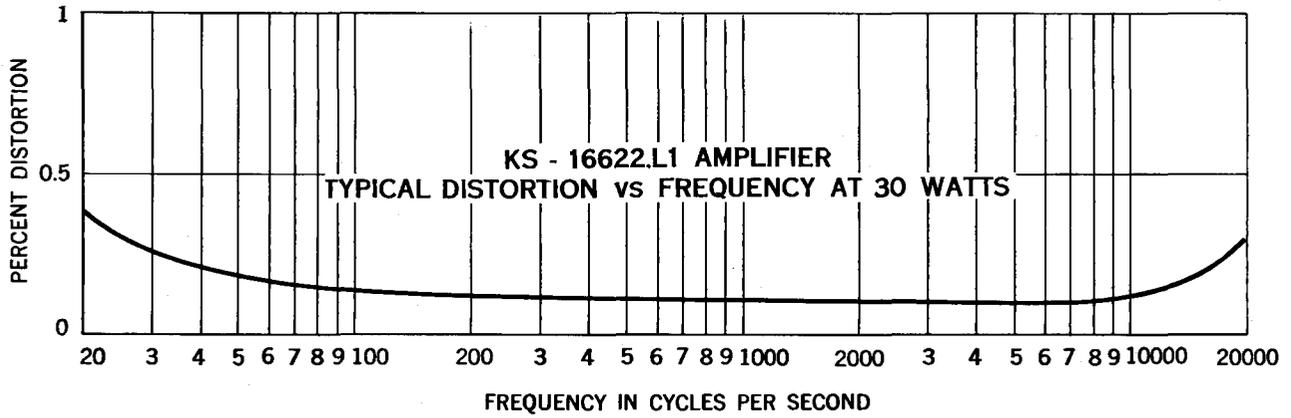

Fig. 5 - Harmonic Distortion
6.02 Fig. 5 shows the typical harmonic distortion characteristic of the amplifier.